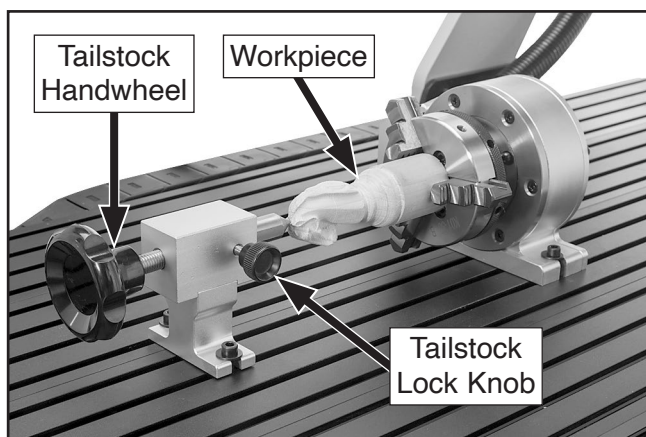

Figure 22. Example of workpiece secured in chuck jaws.
5. Position tailstock against unsupported end of workpiece and rotate tailstock handwheel to move dead center into center of workpiece, then tighten tailstock lock knob to secure (see **Figure 22**).